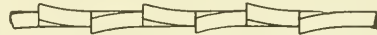

Fig. 73
18. **The Splitting-saw** (or *ripping-saw*) is used to cut with the grain, and the teeth differ from those of the cross-cutting saw. The latter are like little knives to cut across the grain, but the teeth of the splitting-saw cut only on the forward stroke, and are like little chisels to cut with the grain (Fig. 72), but are not suitable to cut directly across the grain. The sharp ends, which are square (Fig. 73, showing set), or may be oblique, cut off the fibres, and the front edges of the teeth push them out of the kerf. The splitting-saw is used like the cross-cutting